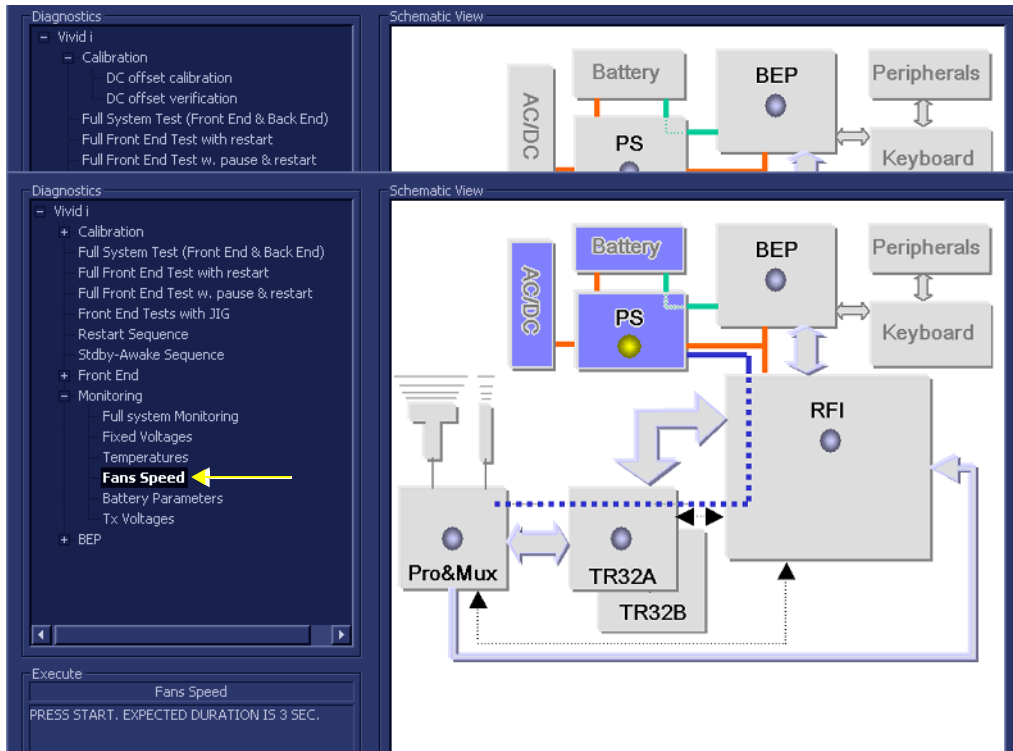

Figure 7-68 Fans Speed Test
- 1.) In the *Diagnostic Test* window, trackball to **Fans Speed** in the list of *Monitoring* tests available for selection from the Diagnostic Test Tree (see Figure 7-68 below) and press **Set**. The Fans Speed Test name is displayed under *Execute*; the relevant system components to be tested are highlighted light blue in the Schematic View (AC/DC, Battery, PS), as shown below: